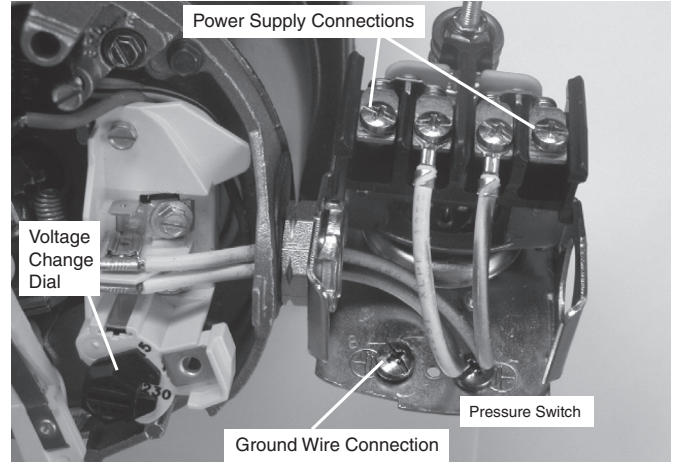

Figure 16 - Voltage set to 230 V, Dial Type
3. Attach the incoming power leads to the two outer screws on the pressure switch as shown in Figure 16.
4. Attach the ground wire to the grounding connections as shown in Figure 16.
1. Connect the ground wire first as shown in Figure 16. The ground wire must be a solid copper wire the same or larger gauge as the power supply wires.
4. Connect the power supply wires to the pressure switch as shown in Figure 16.